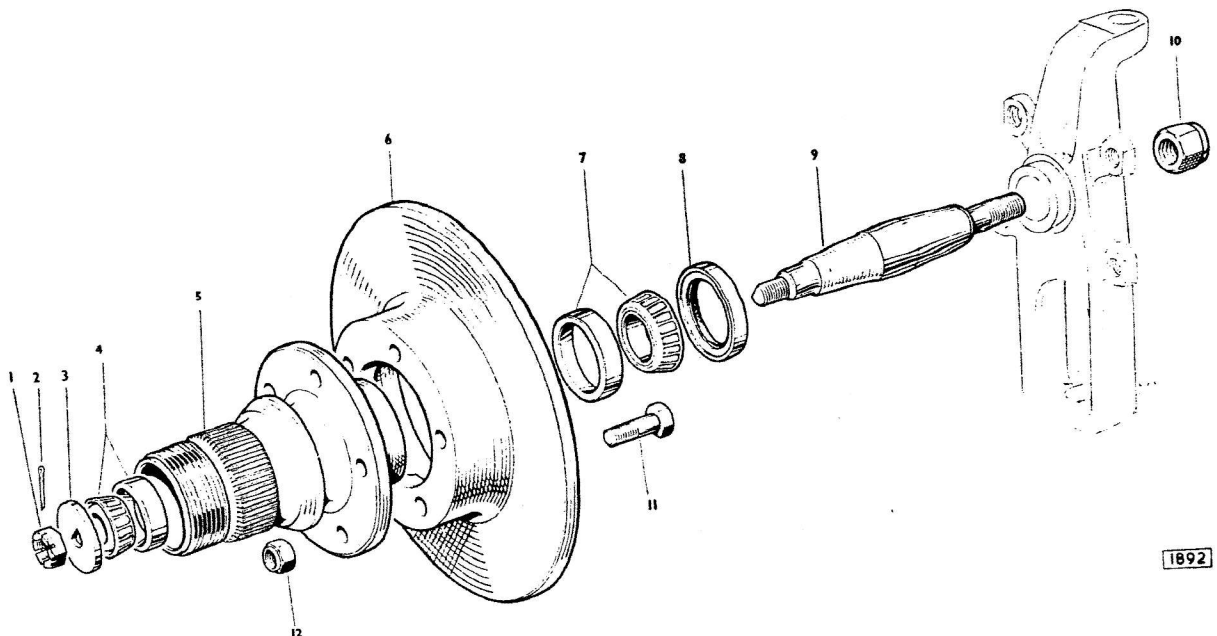

Fig. 10. The front hub.
Remove the locking wire from the two brake caliper mounting bolts and unscrew the bolts noting the shims fitted between the caliper and the mounting plate. Remove the caliper. Remove the split pin, (2, Fig. 10), retaining the hub nut; holes are provided in the side of the hub through which the split pin can be withdrawn. Remove the slotted nut (1) and plain